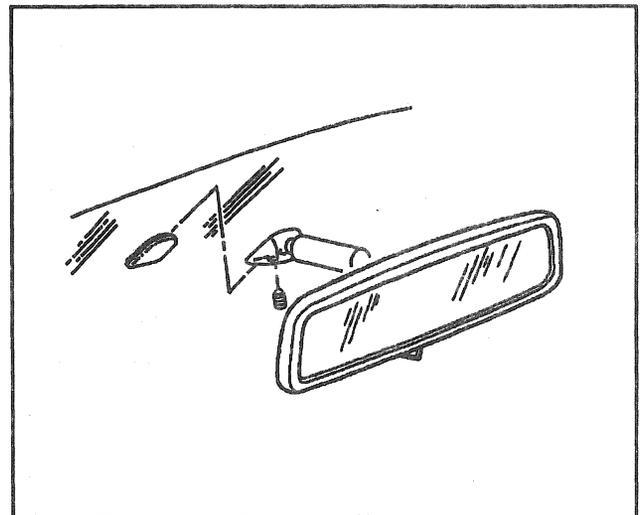

Figure 9—Rearview Mirror
- 5. Rear view mirror (Figure 9). Refer to "Mirror Removal" in this section.